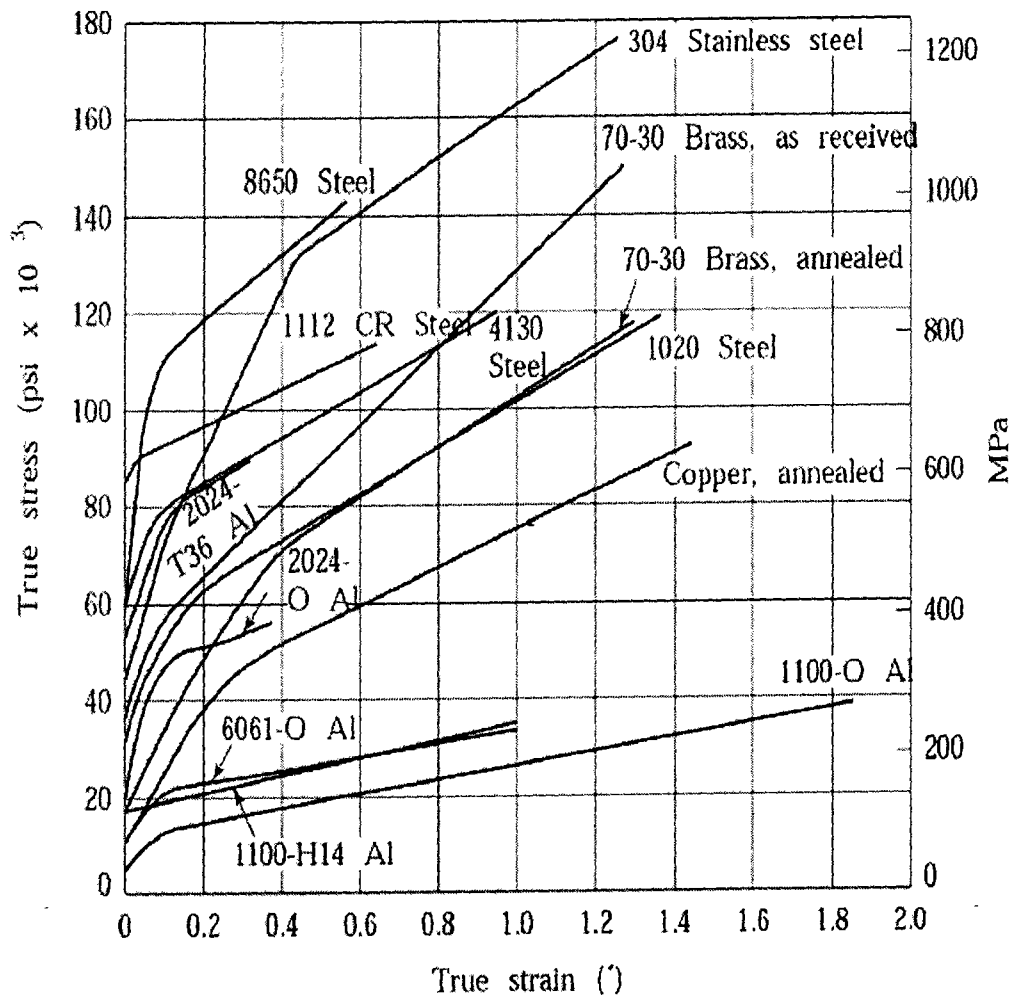

Figure 8/Rajah 8
- (iii) Calculate the torque needed. Note that the *torque per roll* is the product of F and a . (Use **Figure 8** to read the true stress of 1020 steel.)